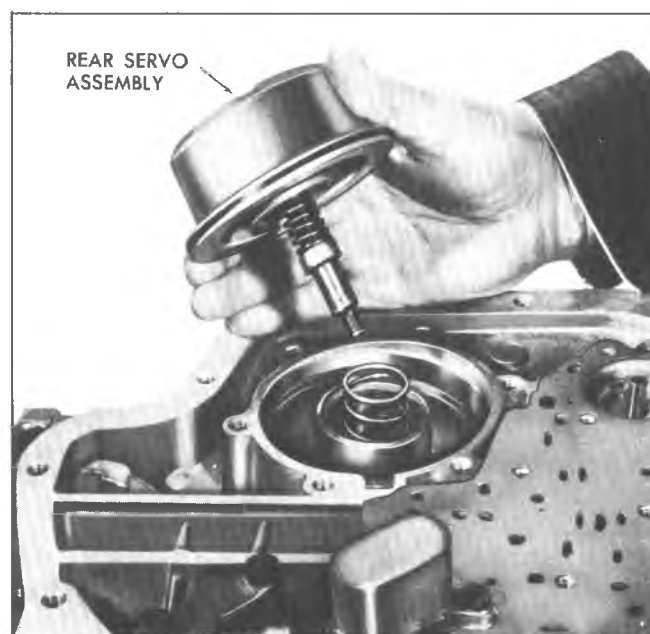

Fig. 12T--Removing Rear Servo Assembly
1. Remove rear servo assembly from case (fig. 12T).